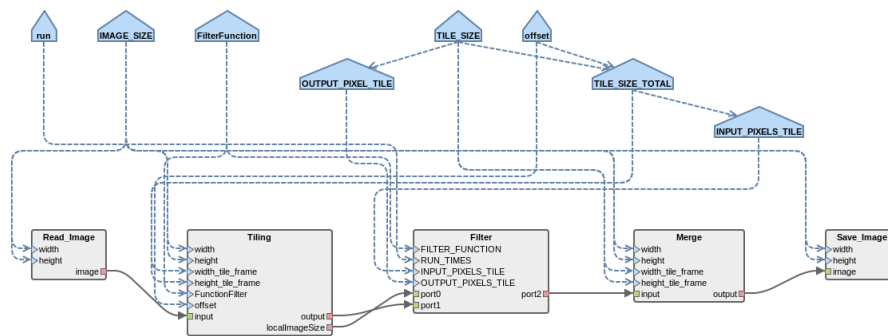

Figure 5: PiSDF of the image processing algorithm.
3. **Open the PiSDF:** Within the folder > **Algo**, double click on the file **.diagram** file: the PiSDF of the image processing algorithm will be displayed (Fig. 5).